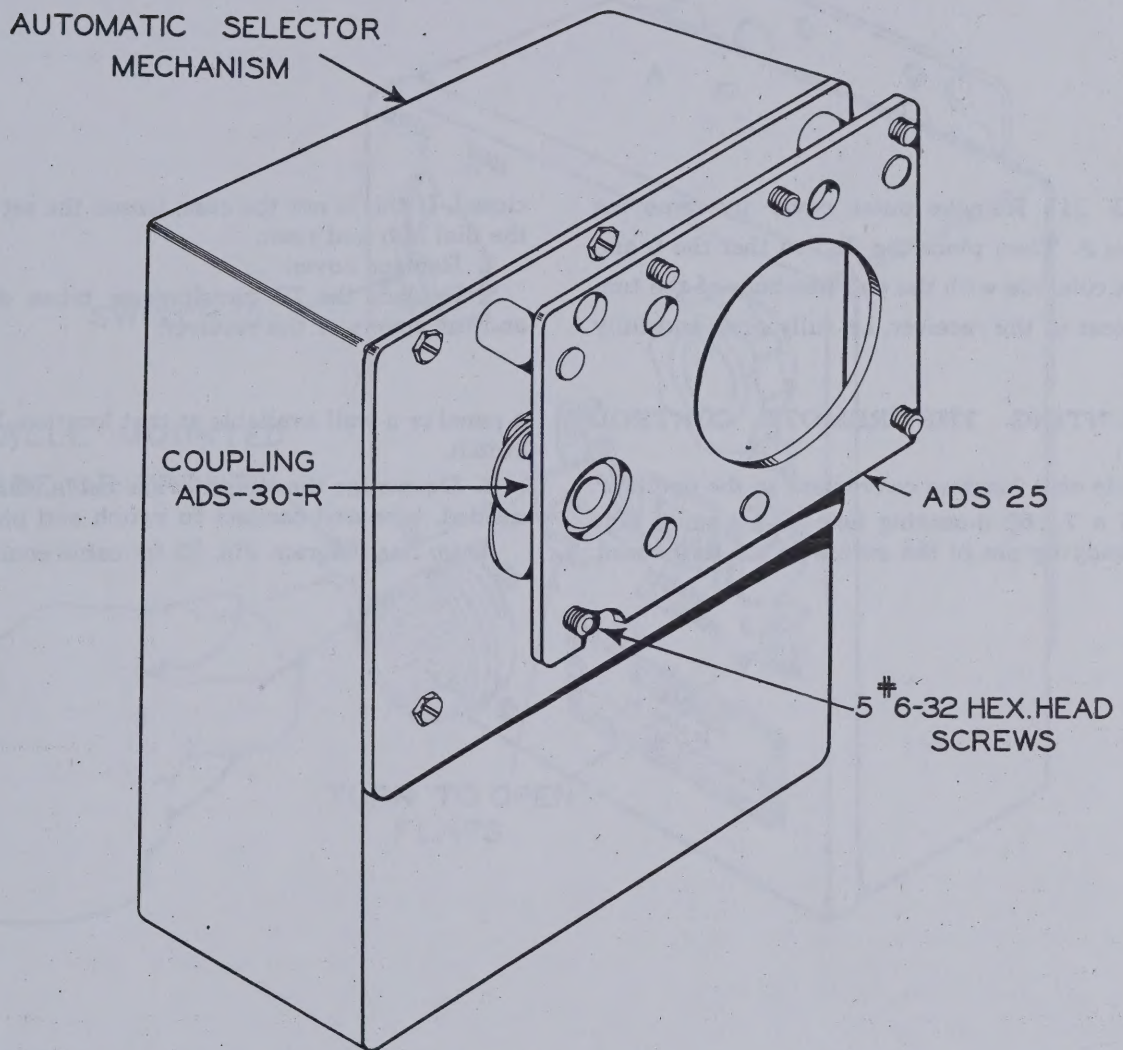

Figure 20 — Rear View of Tuner Showing Adapter Mounting
1. (FIG. 20) Fasten the Automatic Selector Mechanism with the five hexagonal head screws and shake-proof washers furnished with the tuner. See to it that the shafts of the receiver and of the selector unit are accurately aligned. Before being tightened, the flexible coupling should spin freely when placed over both shafts. If not, loosen the five hexagonal